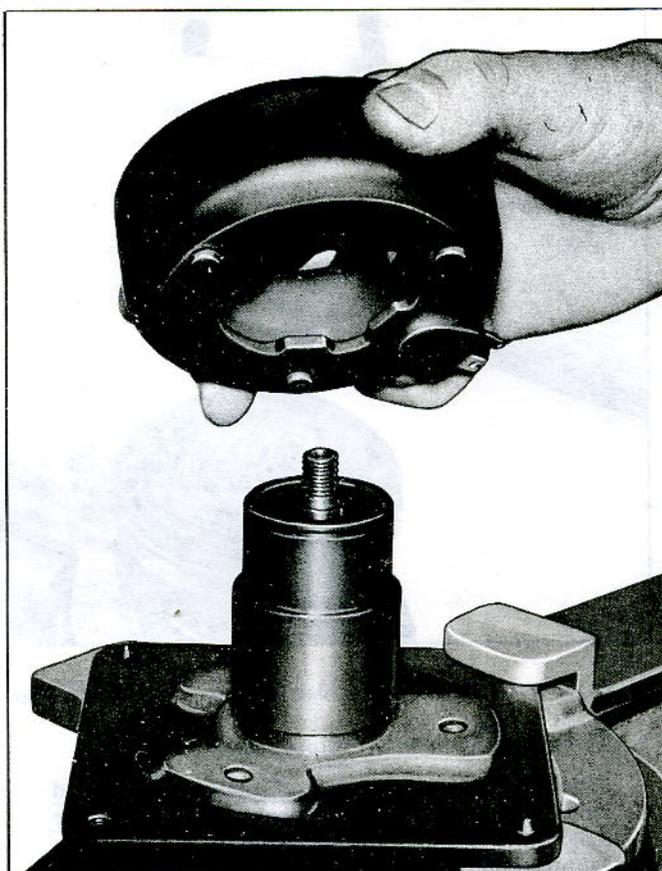

Fig. 38—Installing Coil Housing
1. Rotate the coil housing to the correct position as indicated by the scribe marks and the location of the electrical terminals and fit into place (fig. 38).